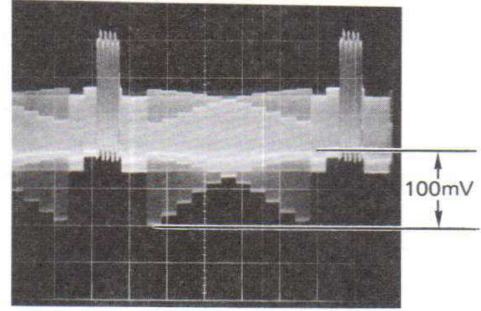

Fig. 4-2-36
- Connect the oscilloscope to pin1 (Y) of CN6 on the Preamp/Drive board.
- Trigger the oscilloscope at H rate using TP1 (HD) on the Mother board.
- Adjust the lens iris so that the Y signal level becomes 100mV and keep this condition until the adjustment is completed (refer to Fig. 4-2-36 on page 2-16).